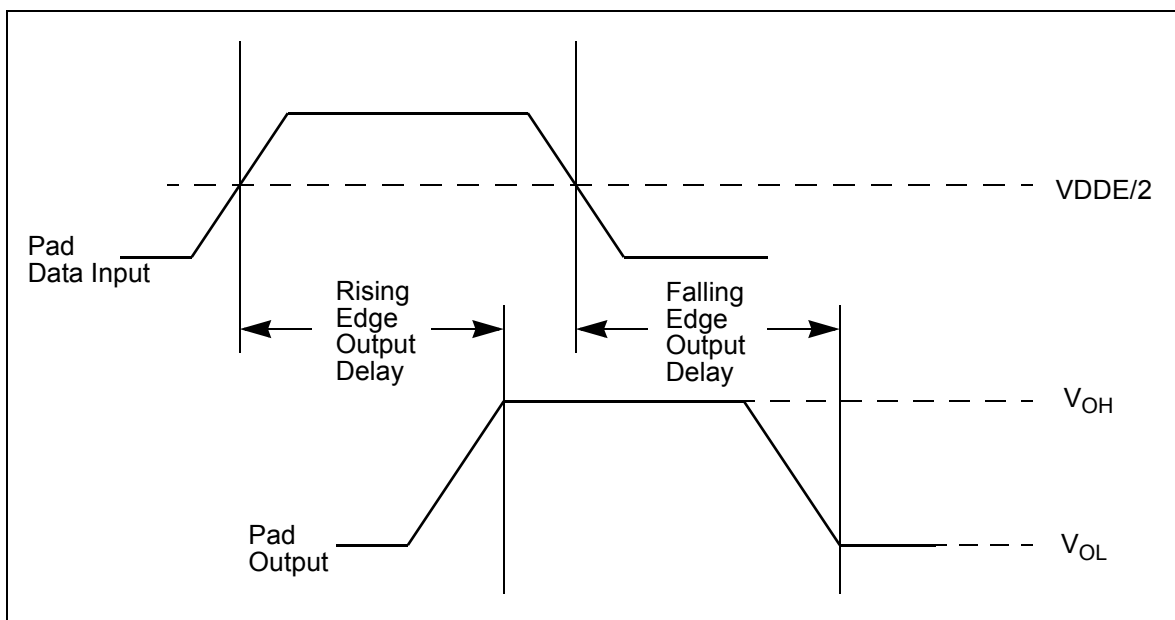

Figure 9. Pad output delay
⁷ Output delay is shown in Figure 9. Add a maximum of one system clock to the output delay for delay with respect to system clock.
- 7 Output delay is shown in Figure 9. Add a maximum of one system clock to the output delay for delay with respect to system clock.